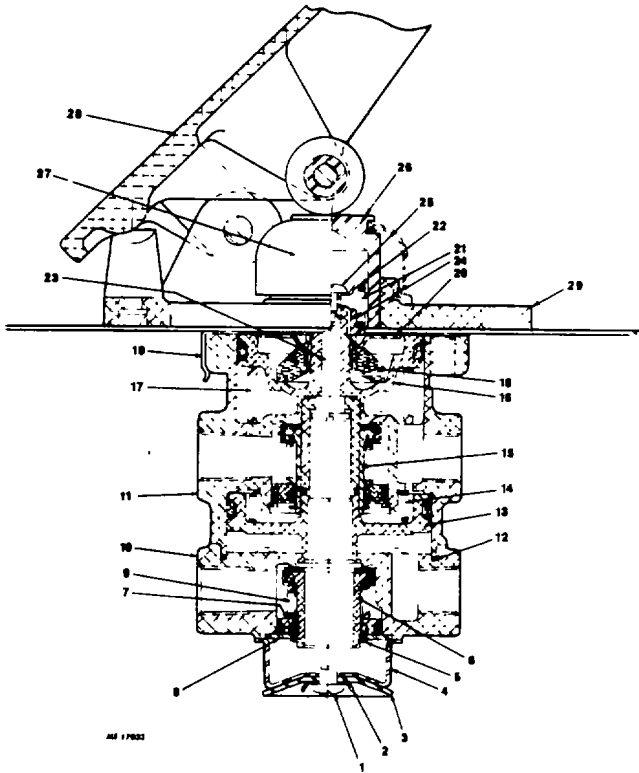

Fig. 8 Sectional View of E6 Brake Valve
Refer to Fig. 8 for numbers in parenthesis.
Before proceeding with the disassembly (refer to Fig. 8), note the ESNA nut and stem are used to contain primary piston return spring (17), stem spring (21) and relay piston spring (14). Combined force of these springs is approximately 222 N (50 lbf) and care must be taken when removing the ESNA nut as the spring forces will be released. It is recommended that primary piston and relay piston be manually or mechanically contained while nut and stem are being removed to prevent bodily injury.
9. Rotate the screwdriver counterclockwise and remove stem (23), stem spring (21), spring guide (22) and ESNA nut.
10. Remove relay piston (13), relay piston spring (14), primary piston and primary piston return spring from the upper body.
11. Disassemble primary piston by rotating the spring seat nut (24) counterclockwise. Separate spring seat nut, spring seat (20), rubber spring (18) and remove piston O-ring.
13. Remove retaining ring securing primary inlet and exhaust valve assembly (15) in upper body and remove valve assembly. Do not disassemble primary inlet as it is only serviced as an assembly.
Refer to Fig. 8 for numbers in parenthesis. All torque's specified are assembly torque's and can be expected to differ after assembly is accomplished. Do not retorquer after initial assembly.
4. Position rubber spring (18), concave side down, in primary piston and place spring seat (20), flat side up, over rubber spring.
5. Install primary piston spring seat nut (24) with its hex closest to spring seat and rotate clockwise until top surface of spring seat is even with top surface of piston (16).
6. Position primary piston return spring (17) in the upper body piston bore.
8. Place relay piston return spring (14) in the upper body and position relay piston over spring so that the concave side of the piston is against the spring (refer to Fig. 8).
10. Place stem (23) through exhaust passage of the lower body so that threaded portion is visible at primary piston.
11. Use a screwdriver to engage and hold the slotted head of stem; then position stem spring (21) and spring guide (22) over primary piston.
13. Install primary piston retainer (19) over piston making certain all three lock tabs have engaged the outer lip of body.
15. Place exhaust cover (4) on lower body and install four #10-24 machine screws with lockwashers; torque screws to 2.3 - 3.4 N.m (20 - 30 in lbs).
16. Install exhaust diaphragm (3) and diaphragm washer (2) to exhaust cover using Phillips head screw and lockwashers.
17. Install seal ring (12) in lower body and secure lower body to upper body using four hex head capscrews and lockwashers; torque capscrews to 7.9 - 11.3 N.m (70 - 100 in lbs).